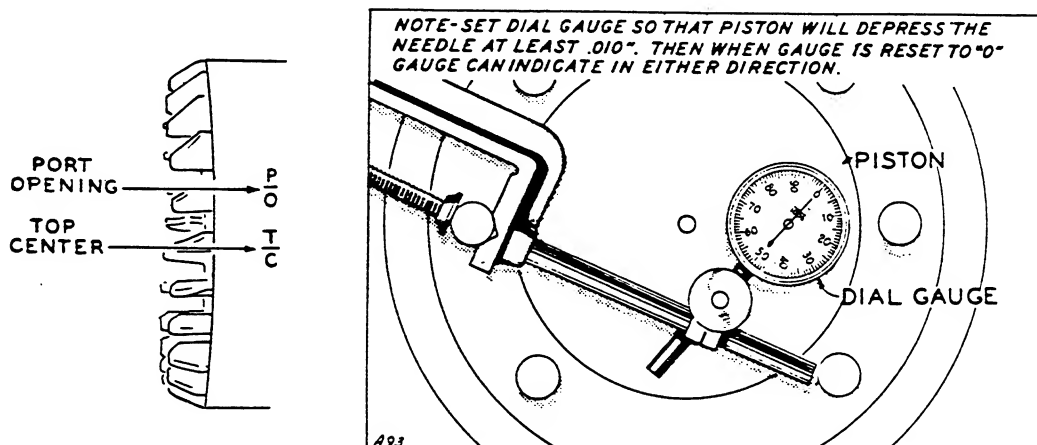

FIG. 38 - INSTALLING A NEW FLYWHEEL
- (1) Remove the plate from the top of the cylinder head.
- (2) Rotate the engine until the mark or pin on the flywheel housing and the "TC" mark on the flywheel (See Fig. 38) are in alignment on the compression stroke.
- (3) Back off the valve adjusting screws.
- (4) Remove the pin from the rocker arm shaft.
- (5) Use a brass rod and drive the rocker arm shaft out toward the blower housing end of the engine until the "O" ring can be removed from the shaft. Then remove the "O" ring and drive the shaft out toward the other end of the engine. The rocker arms, springs and bushings can then be removed.
- (1) See that the "TC" mark on the flywheel and the marks on the flywheel housing are properly aligned as shown in Fig. 38.
Should the installation of a new flywheel become necessary, the "TC" (top center) and "PO" (port opening) locations should be determined and marked on the flywheel. A dial gauge should be used as shown in Fig. 38. Proceed as follows:
(1) Install the flywheel on the crankshaft and turn the flywheel with rotation until both valves open and close and continue about 1/2 turn until the piston is at the top of the cylinder.
(2) Remove the cylinder head and place the dial gauge (must read 0 to 100 in thousands) as shown in Fig. 38.